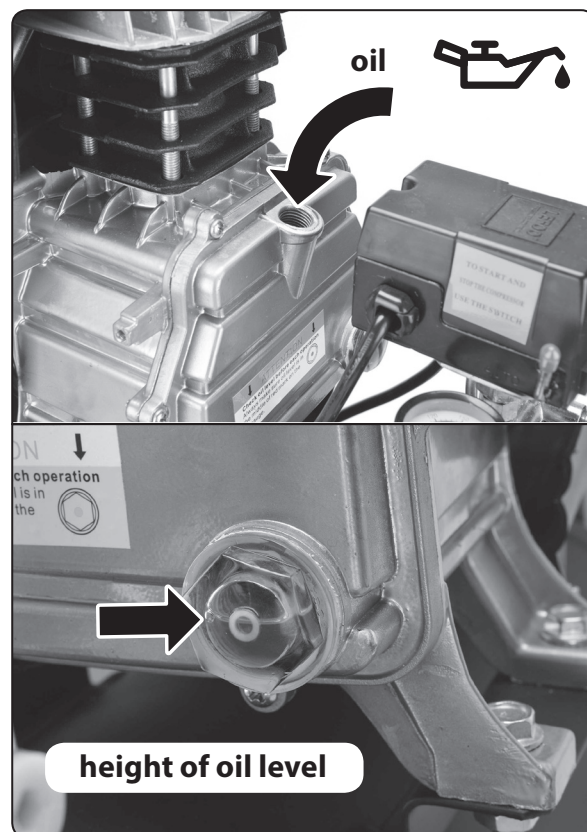

Fig. 2
3) Unscrew the plug of the hole for pouring oil into the crankcase and pour compressor oil ISO VG 100 or synthetic motor oil class SAE 15W40 into the crankcase in such an amount that the oil level is in the middle of the oil level indicator ring in the crankcase, as shown in figure 2 below.